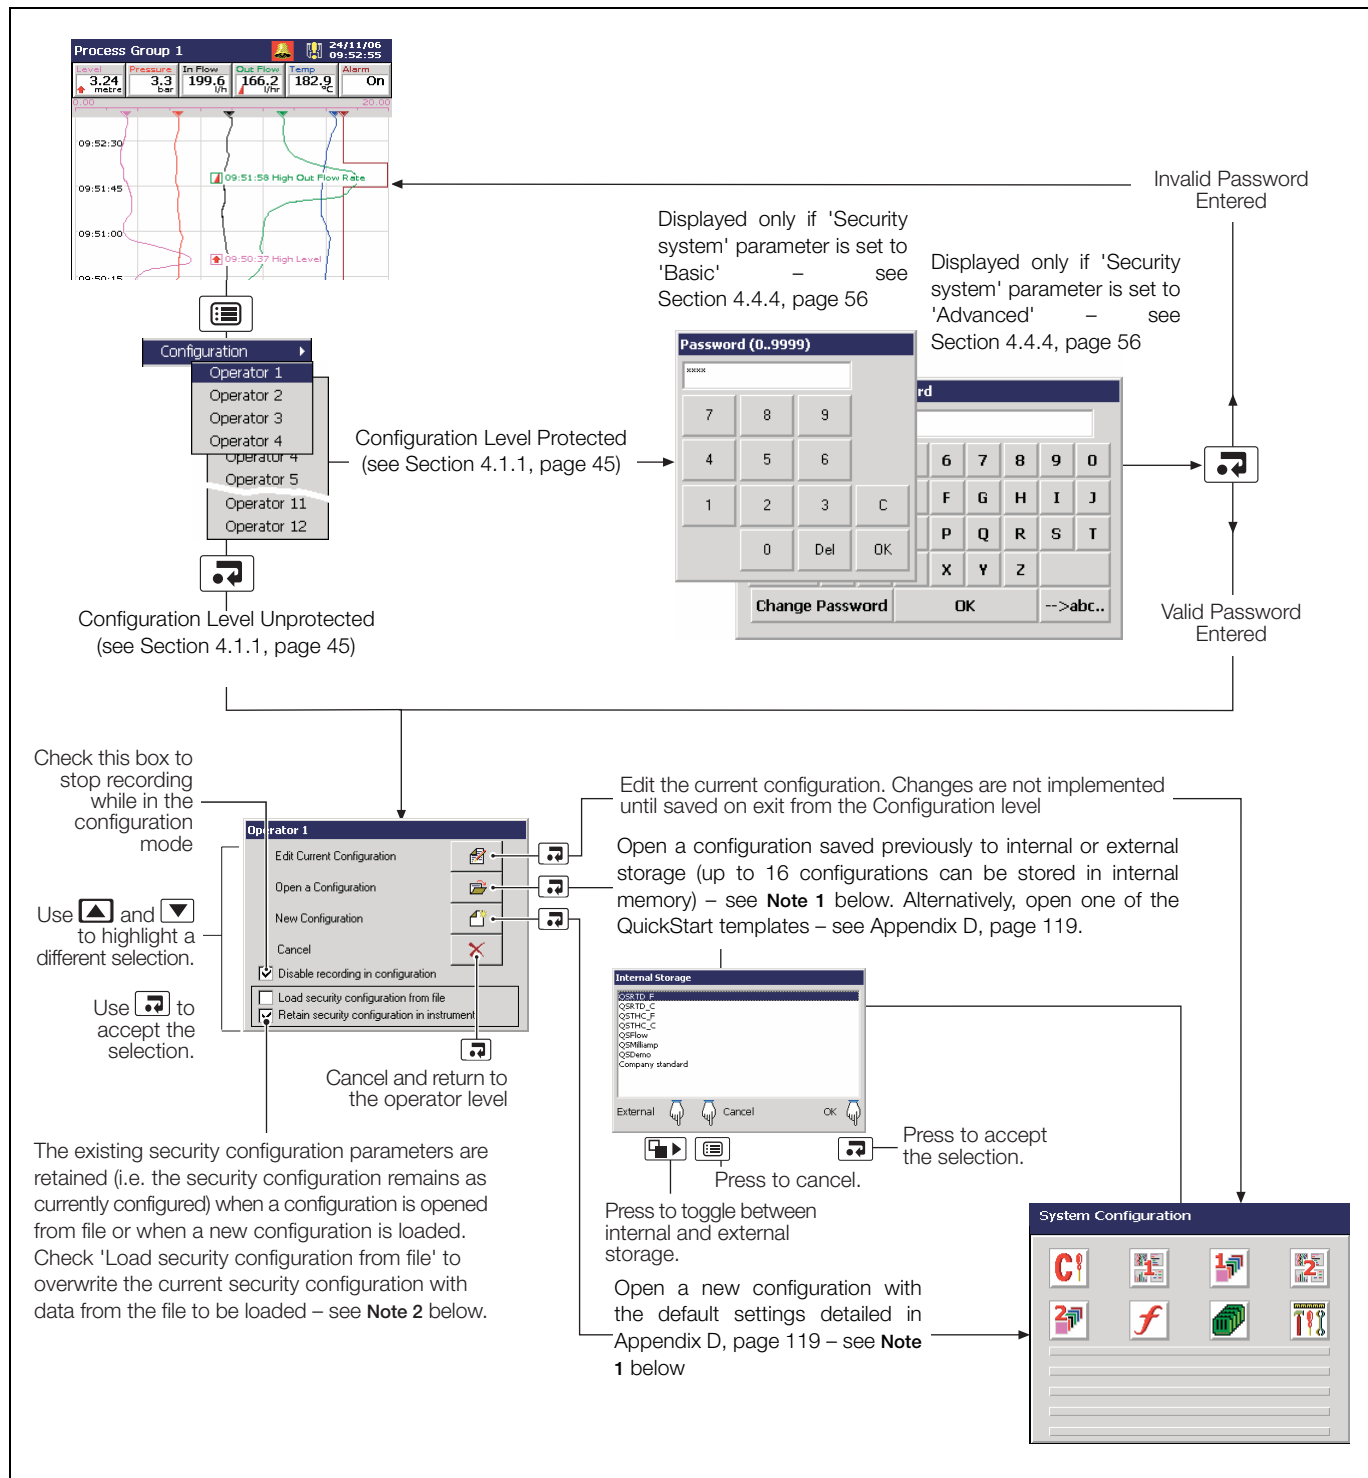

Fig. 4.1 Accessing the Configuration Level
The Configuration level cannot be accessed until the correct password has been entered – see Fig. 4.1, page 46.
4.1.2 Configuration Level Access – Figs. 4.1 and 4.2
- Access the Configuration Level – see Fig. 4.1, page 46.
- Make changes to parameters as detailed in Figs. 4.1 and 4.3.
- The date and time cannot be adjusted if recording is enabled during configuration, i.e the 'Disable recording in configuration' check box is **not** ticked on entry to the Configuration level – see Fig. 4.1, page 46.